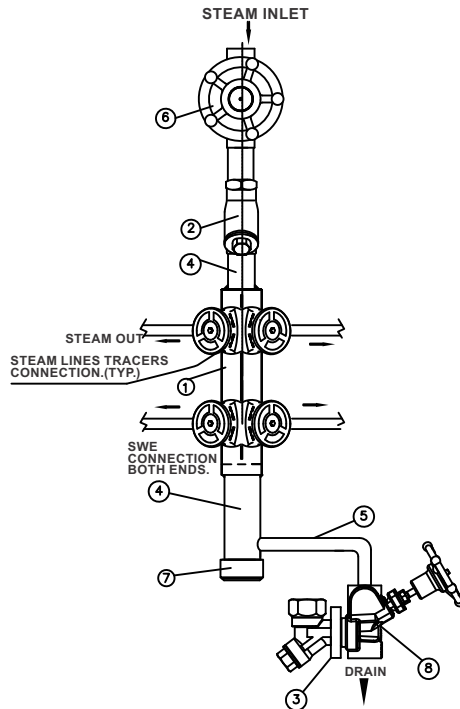

Figure 4: Typical installation of Forbes Marshall Steam Manifold
6.1.1. Forbes Marshall Steam Manifold: [Refer figure 4]